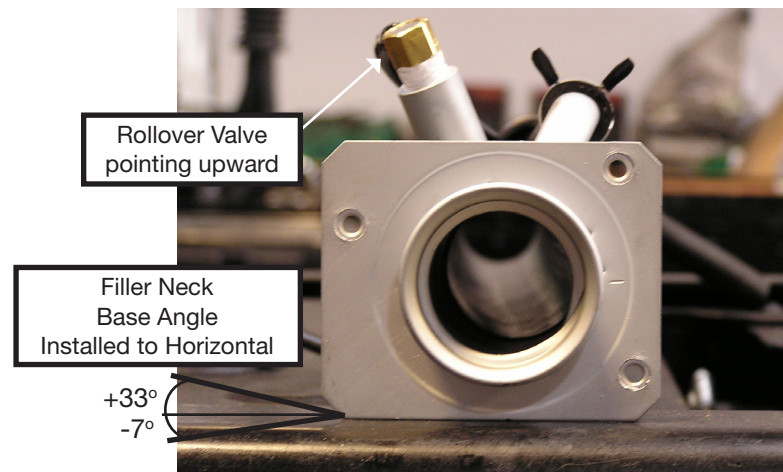

Figure 11.34.2
The roll-over valve has a hose attachment that will make this valve less sensitive to water intrusion. In order for the valve to work properly, it is critical that the hose be installed to the rollover valve. The proper assembly of the outer hose is shown in **Figure 11.34.2.1**.
The fuel filler neck (5) must be installed with the proper orientation on the body. The neck should be installed with the roll-over valve pointing upward, with the bottom edge of the neck oriented parallel to the ground, plus 33 to minus 7 degrees. See **Figure 11.34.2.1** for the proper orientation.